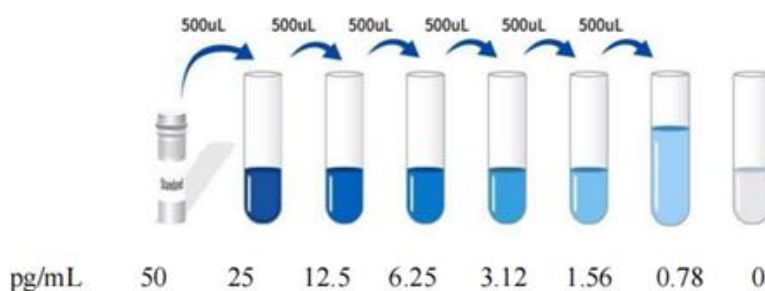

Figure 1. Serial dilution of the mouse E2 standard.
2. Serial Standard Working Solution Preparation: Reconstitute lyophilized standard with 1 mL assay diluent, incubate 15 minutes for full dissolution, then mix gently (stock concentration = 50 pg/mL). Prepare serial standards at concentrations: 50, 25, 12.5, 6.25, 3.12, 1.56, 0.78, 0 pg/mL. Serial dilution method: Prepare 7 EP tubes pre-filled with 500 μ L assay diluent each. Transfer 500 μ L 50 pg/mL standard into the first tube to make 25 pg/mL solution, then serially transfer 500 μ L to each subsequent tube for gradient dilution. The final tube (0 pg/mL) serves as blank control with no standard added. The serial dilution procedure is shown in Figure 1.